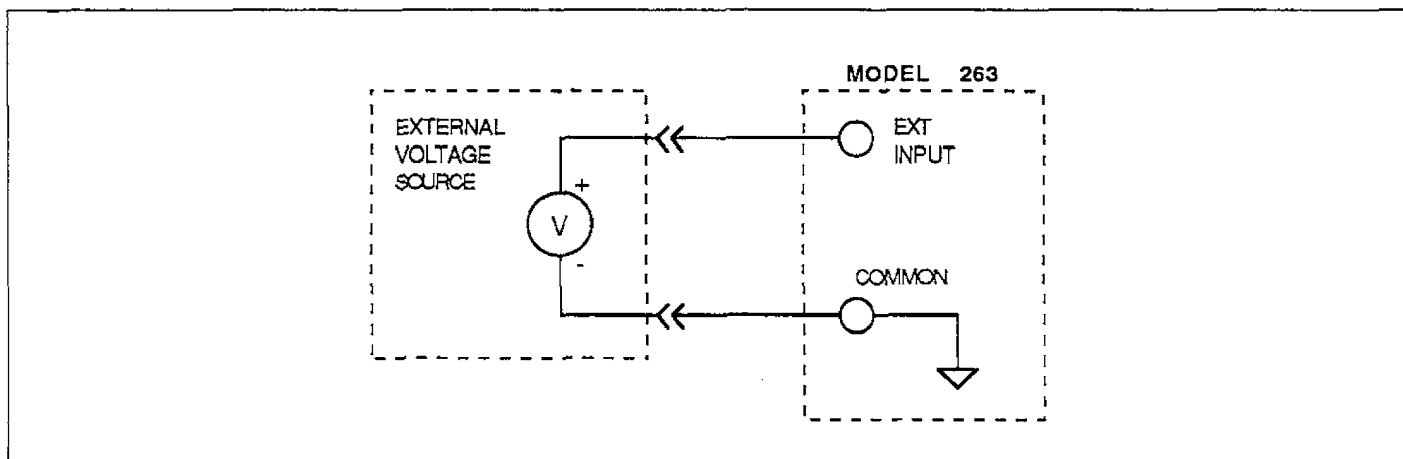

Figure 3-22. Connecting External Voltage Source to Model 263
- A. If an external source is to be used, connect its output to the EXT INPUT terminals of the Model 263 as shown in Figure 3-22.
- A. To source current or charge to a feedback meter, simply connect the output of the Model 263 to the input of the meter as shown in Figure 3-22. If the meter does not have a triax input connector, an adapter will be needed (see paragraph 3.10.1). Guarding is not necessary when sourcing current or charge to a feedback meter.